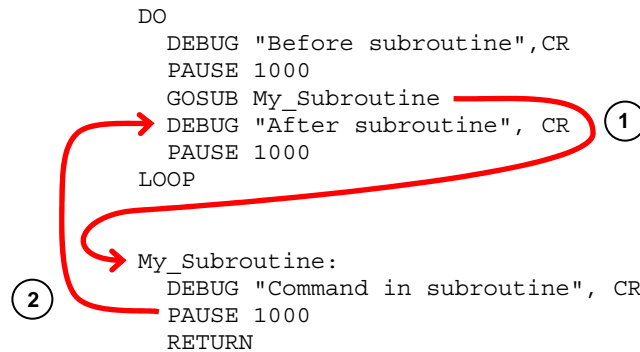

Figure 4-5
Figure 4-5 shows part of a PBASIC program that contains a subroutine call and a subroutine. The subroutine call is the `GOSUB My_Subroutine` command. The actual subroutine is everything from the `My_Subroutine:` label through the `RETURN` command. Here's how it works. When the program gets to the `GOSUB My_Subroutine` command, it looks for the `My_Subroutine:` label. As shown by arrow (1), the program jumps to the `My_Subroutine:` label and starts executing commands. The program keeps going down line by line from the label, so you'll see the message "Command in subroutine" in your Debug Terminal. `PAUSE 1000` causes a one second pause. Then, when the program gets to the `RETURN` command, arrow (2) shows how it jumps back to the command immediately after the `GOSUB` command. In this case, it's a `DEBUG` command that displays the message "After subroutine".